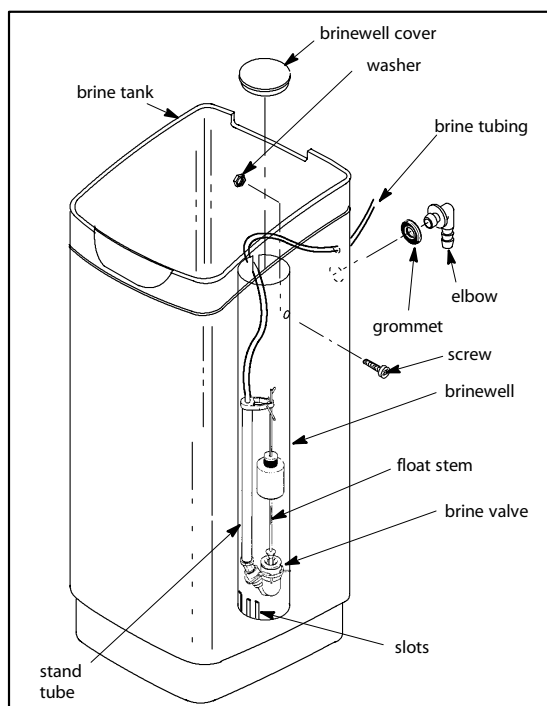

FIG. 2
a. Locate the brinewell in position. On the brine tank, locate the slots at the bottom of the brinewell, toward the tank wall, as shown in Figure 2. Then use the screw and washer (in parts bag) to fasten the brinewell in place.
b. Lower the brine valve into the brinewell. Push the tubing into the brinewell top slot (Fig. 2) and route it out of the brine tank through the smaller hole in the rear wall of the brine tank.